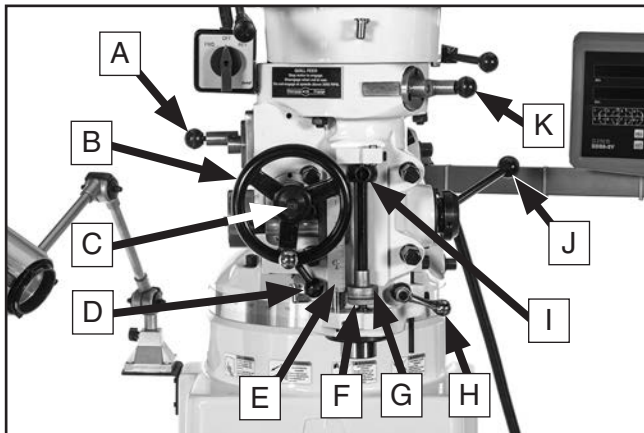

Figure 44. Downfeed controls.
Use **Figure 44** and the following descriptions to become familiar with the spindle downfeed controls.
The downfeed stop (see **Figure 44**) sets the depth of spindle travel for repeat operations. The upper edge of the downfeed stop aligns with marks on the downfeed scale to help you set the approximate depth, however the downfeed scale functions as a general guide only, and is not intended for low-tolerance, precision results.
To set the downfeed stop, rotate stop until upper edge aligns with desired depth indicated on scale (see **Figure 44**), then tighten locking wheel against stop to secure it.
3. Set auto-downfeed direction pin (see **Figure 44** on **Page 40**) in neutral (middle) position to disengage fine downfeed handwheel from auto-downfeed gears.
4. Use coarse downfeed lever to lower spindle slightly until you can pull fine/auto downfeed clutch lever (see **Figure 44** on **Page 40**) to the left so it locks in place.
3. Position downfeed stop for spindle depth that is correct for your operation, then secure it in place with locking wheel (see **Figure 44** on **Page 40** and description on **Page 40**).
- Position auto-downfeed direction pin (see **Figure 44** on **Page 40**) in center of handwheel for spindle travel that is correct for your operation. If necessary, rock fine downfeed handwheel back-and-forth to move pin all the way in or out.